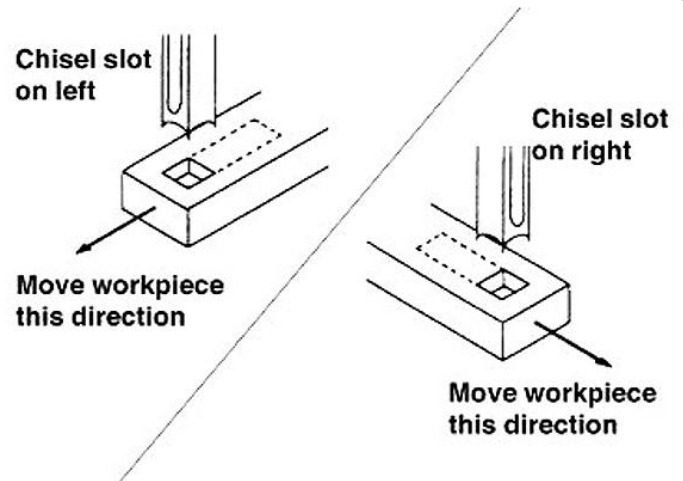

Fig 6
5. After the first cut, the workpiece is moved along with the right handwheel for each successive cut. The direction of movement must allow the chips to clear freely. Move the workpiece so that the slot in the chisel is releasing chips into the *already cut* part of the workpiece. See Figure 6.